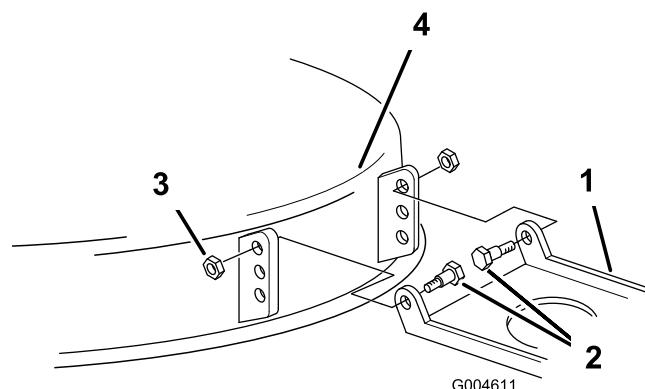

Figure 49
18. If you cannot get a 1/4 to 5/8 inch (6 to 16 mm) front slope by rotating the slope adjusting nut, move the mower pivot mount at the mower (Figure 49).
19. Remove the shoulder bolts and locknuts from the mower (Figure 49).
20. Lower the mower pivot a hole and install the shoulder bolts and locknuts (Figure 49).